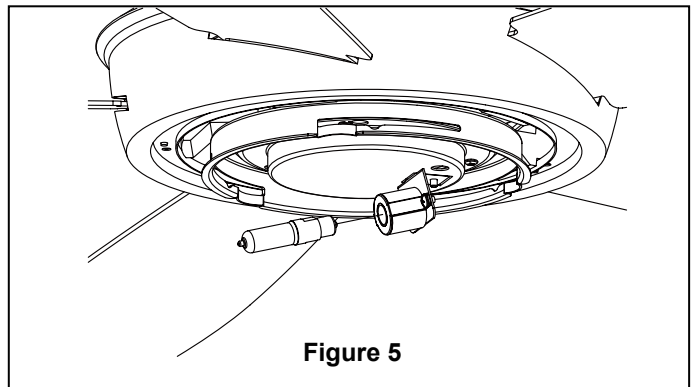

Figure 5
6. Loosen the two setscrews in the Downrod Support. Align the Clevis Pin holes in the Downrod with the holes in the Downrod Support. Install the Clevis Pin and secure with the Hairpin Clip. (Figure 5) Be sure to push the straight leg of the hairpin clip through the hole near the end of the clevis pin until the curved portion of the hairpin clip snaps around the clevis pin. The hairpin clip must be properly installed to prevent the clevis pin from working loose. Pull on the Downrod to make sure the clevis pin is properly installed.
9. While pulling up on the hanger ball, securely tighten the two setscrews with nuts in the downrod support. (Figure 5)
5. Install one Minican Bulb (included - 100 watts max) in the socket on the Downlight Socket Plate Assembly. (Figure 5)